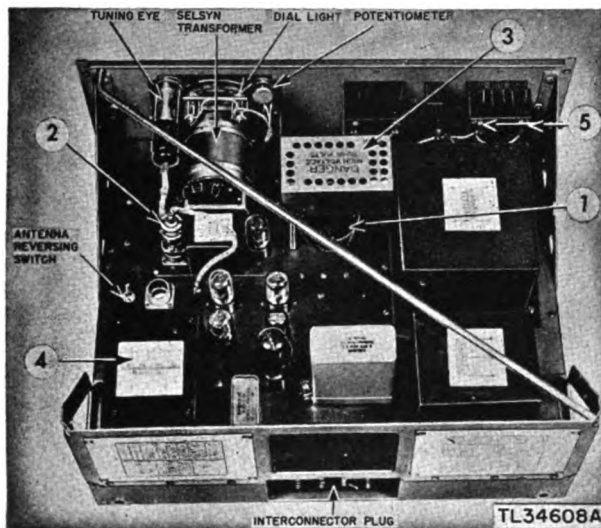

Figure 21. Indicator I-221-A—top view.
- (1) Clean the following:
- (b) Pilot jewels ④.
- (c) Dial and eye tube ⑥.
- (2) Check knobs ⑤ for tight setscrews.
- (3) Check handles ⑦ for tightness of mounting screws.
- (4) Throw switches ① to check for positive action and snap.
- (5) Check contents of the spare fuse holders ② for the proper size fuses.
- (6) Check fuses ③ and their fuse holders for corrosion and proper insertion. Figure 4 shows the method used for checking fuses and fuse holders. ITC. TOP OF CHASSIS (fig. 21).